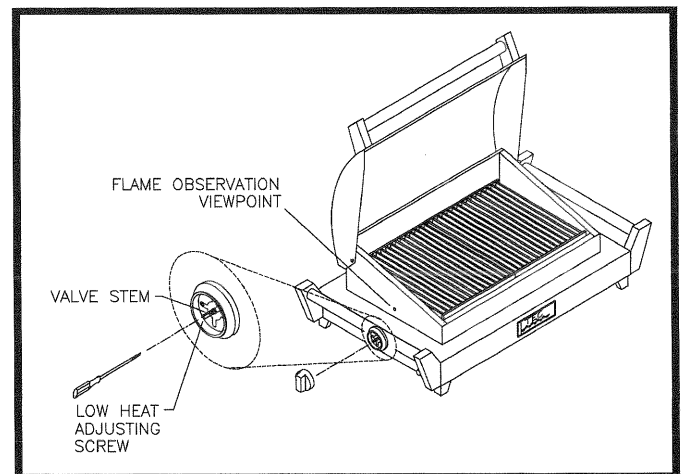

Figure 13 Low Heat Adjustment
ADJUSTMENT SCREW IS NOT IN PLACE. (See Figure 13, page 11)
3. Remove the Burner Control Knob from the valve stem (See Figure 13).
5. Turn the Low Heat Adjustment Screw clockwise to reduce the heat intensity or counter-clockwise to increase the heat intensity. At its optimal low heat adjustment, the burner input will be just high enough to produce a small blue flame. The Burner Flame can be observed while making the low heat adjustment by looking through the Flame Observation Viewpoint on the left side of the grill just above the Burner Control Knob (See Figure 13).
1. Turn the silver-colored ribbed collar surrounding the push button, counter-clockwise one-half turn and pull out to remove. (See Figure 13, Page 14)